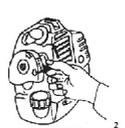

Fig. 9
- Move the choke lever until the completely closed position (marked side). When the fuel is ready and the engine is heated, move the air lever to open position (marked side) (Fig. 9).